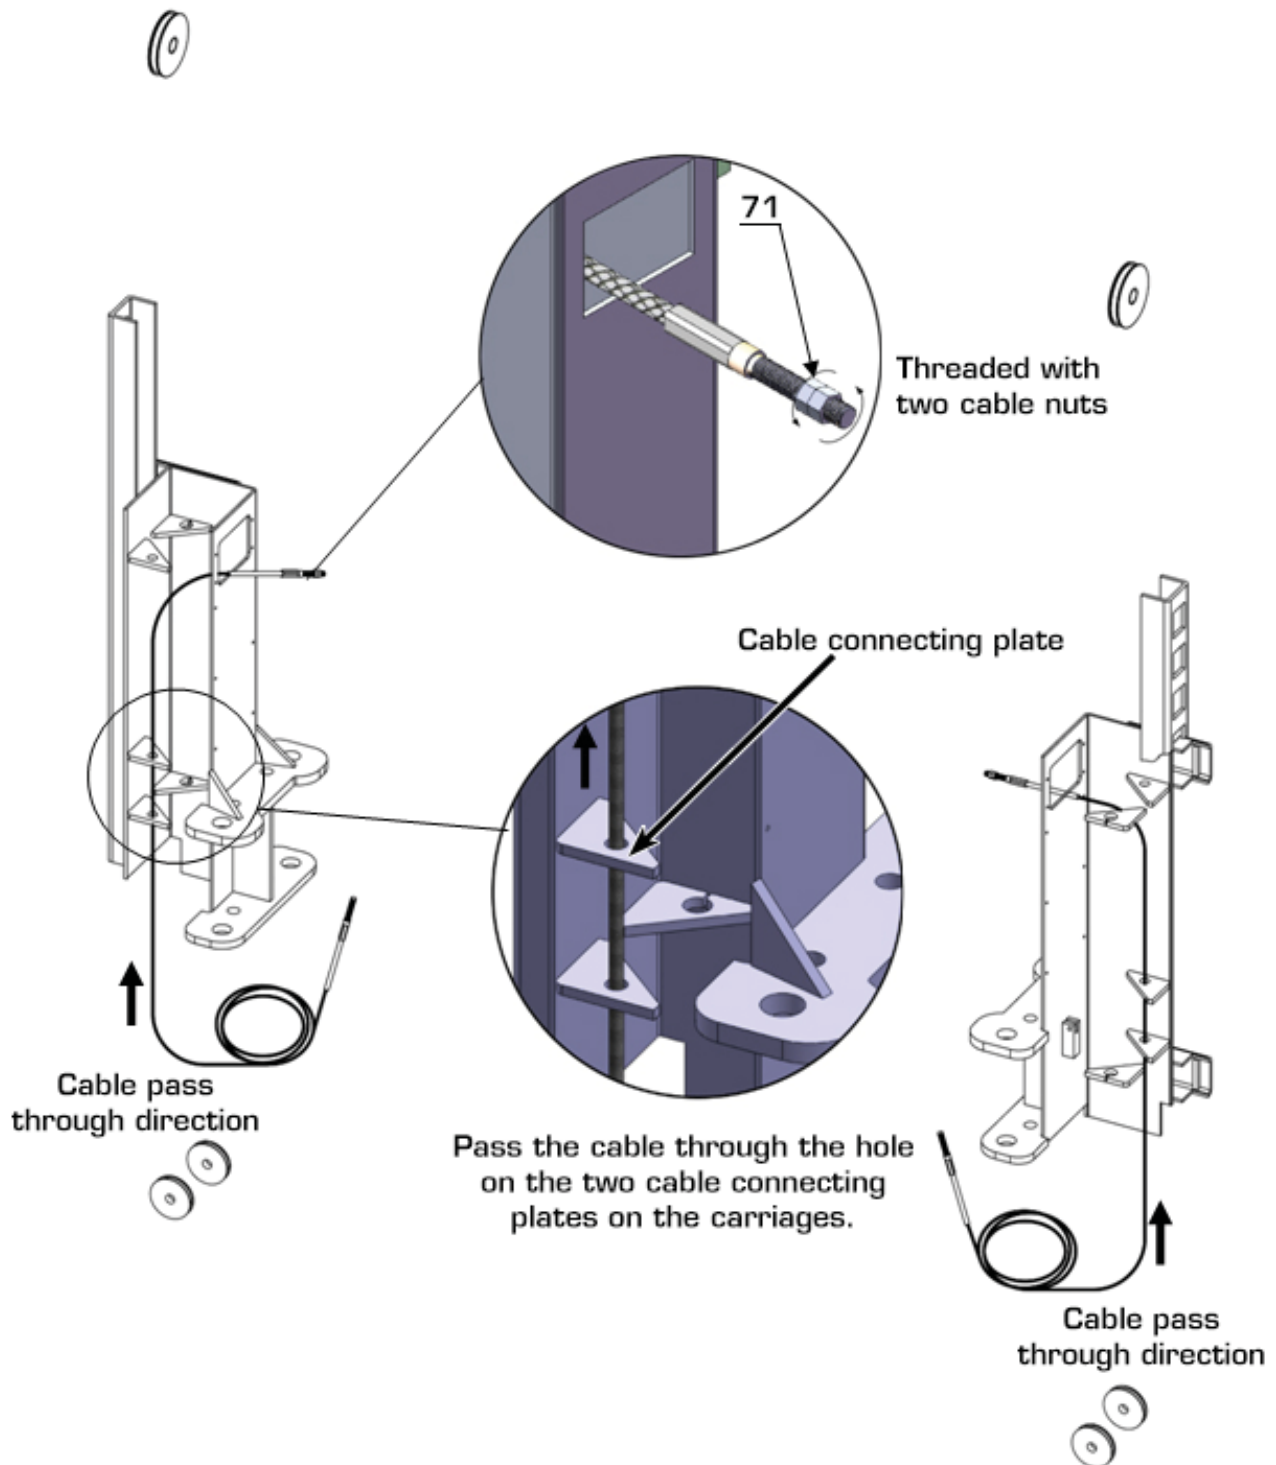

Fig. 20
2.1. Pass the cable through from the bottom to the top of the carriage. The cable passes through the hole of the carriages and is screwed with two cable nuts. (See Fig. 20).